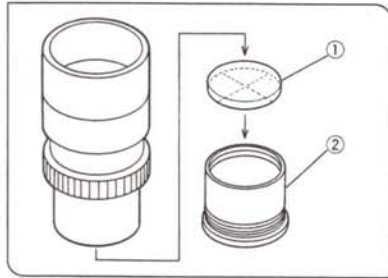

Fig. 31
#### 4 Use of Eyepiece Micrometers (Fig. 31)
(Fig. 31)
Following Fig. 31, unscrew the micrometer frame ② from the eyepiece, place a micrometer ① into the frame. Screw the micrometer frame into the eyepiece as it was before. (Please use  $\phi 24 \times 1$  mm micrometers.)